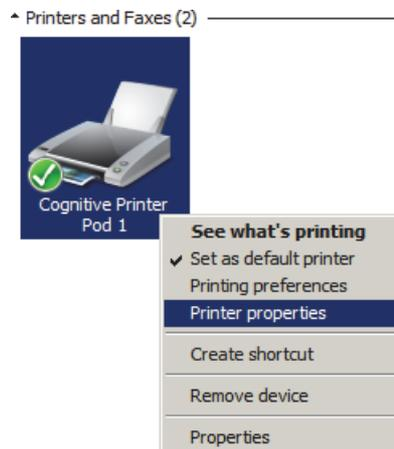

Figure 158: Select Printer Properties
4. Right-click on the relevant Cognitive printer icon and select **Printer Properties** from the pop-up menu as shown in Figure 158.